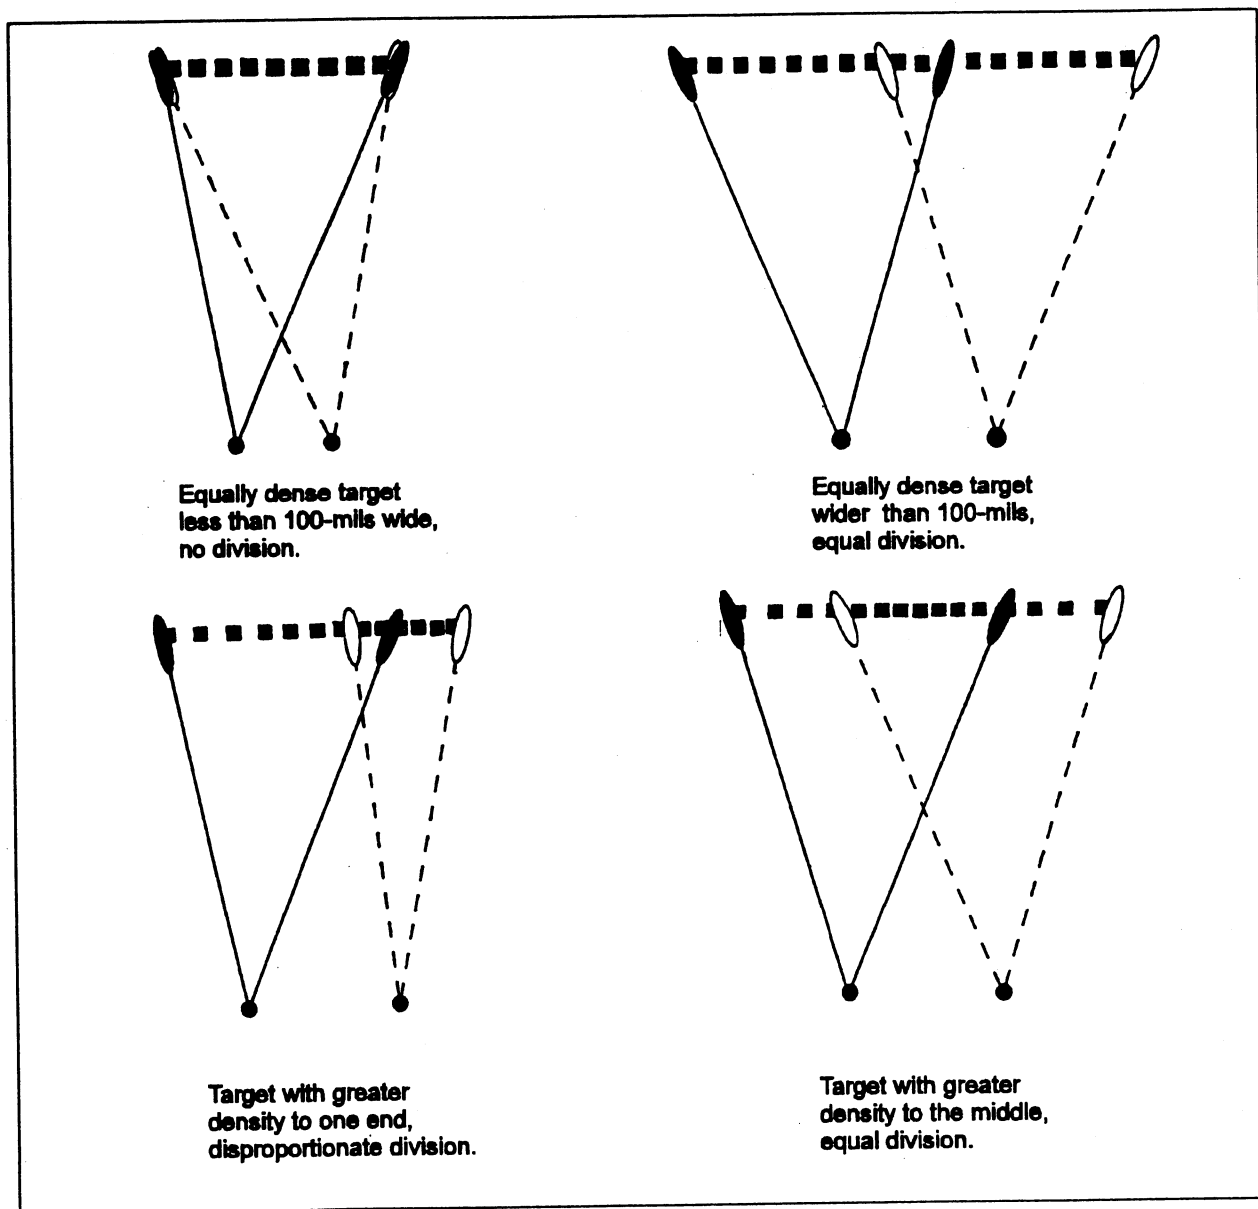

Fig 4-2. Two gun target distribution.
- b. If you deploy as a two-gun team squad (the most desirable method), your squad leader has several options. He may assign a wide target to just one gun (described above) or he may assign sectors of the target to both guns. The squad leader's assignments are based on the density and width of the target. He must keep in mind that each gun can only cover targets 100 mils wide or less without having to release the traversing slide and go to the swinging traverse. If the target is more dense at one end or in the center, the squad leader can assign each gun team unequal portions of the target (demonstrated in fig 4-2). Each gun will fire its initial bursts 2 mils outside its respective flank, covering its assigned portion.